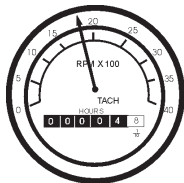

Figure 51. Engine Tachometer Gauge
- The **tachometer gauge** (Figure 51) will indicate the speed of the engine when the generator is operating. Under normal operating conditions this speed is approximately 1800 RPM's.